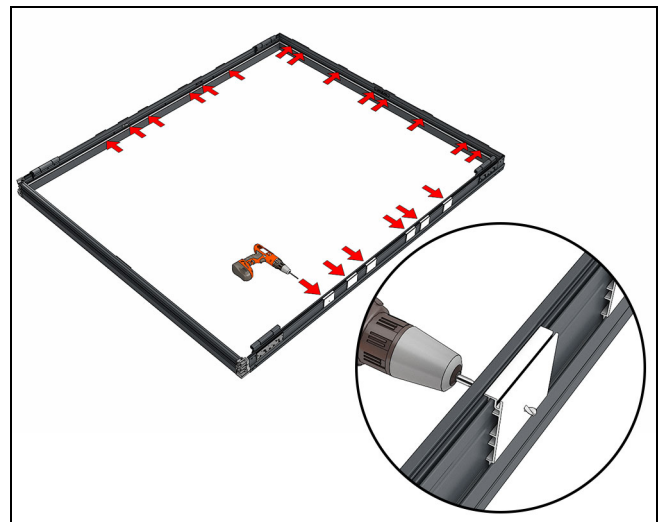

Figure 25
13. Pre-drill through the shim blocks with a 3/16" (5) drill bit. Drill through all jamb screw installation holes, panel alignment bolt holes, and all strike holes. See Figure 25.